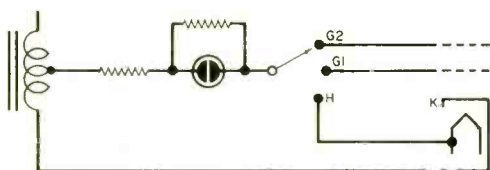

Fig. 1. Neon lamp indicator shows leakage, shorts, and opens between each element and the cathode.
**Opens and Shorts.** The open-short test is shown in the simplified diagram in Fig. 1. In this test a.c. voltage is applied to the cathode, and to each element in the tube, one at a time, through a neon lamp. Each of the elements acts like an anode with respect to the cathode, as in an ordinary diode. Since half the a.c. voltage waveform is passed by the diode so formed, only one half of the neon lamp will glow.